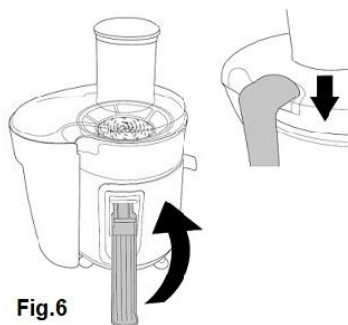

Fig.6
7. Lock the cover into position by fitting the locking clip into position over the top of the cover (Fig. 6). **Ensure that clip is correctly fitted as this is an interlock device.**